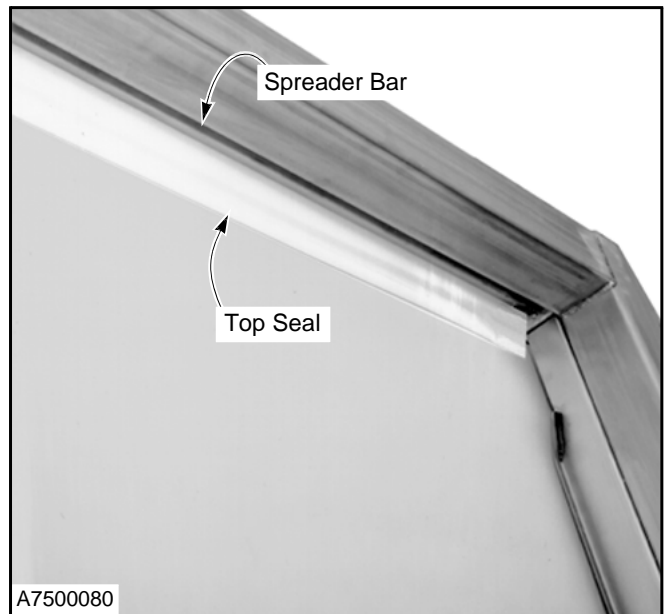

Figure 45
5. Pressure wash the bottom side of the spreader bar and the top seal. (See Figure 45.)